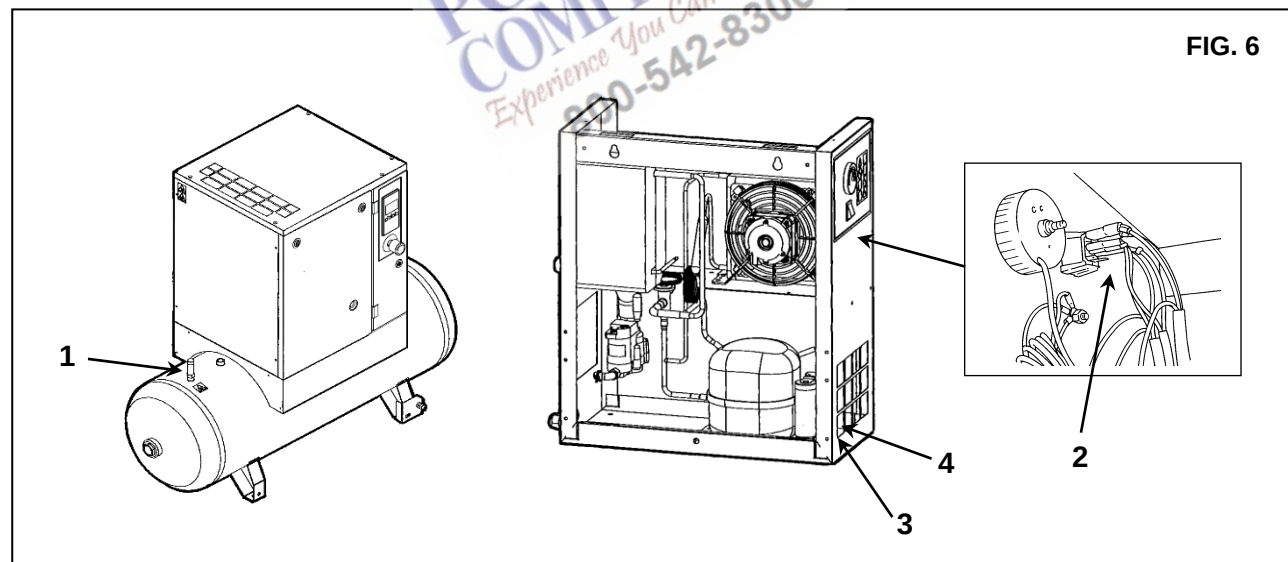

FIG. 6
7.2 SAFETY DEVICES FOR DRYER UNIT AND TANK (FIG.6)